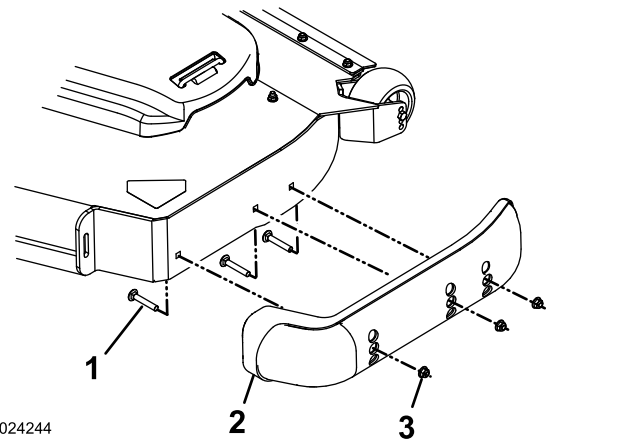

Figure 36
3. Remove the carriage bolts and nuts from each skid (Figure 36).